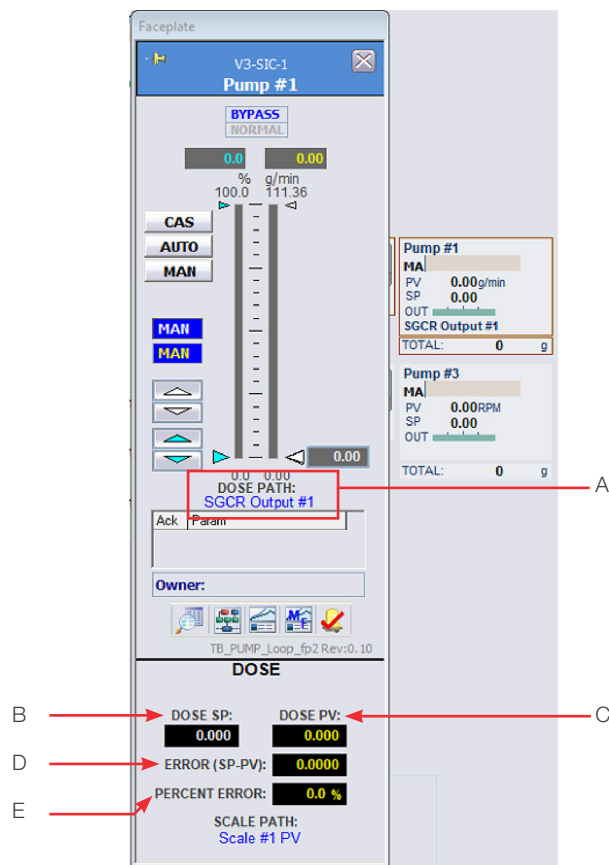

Figure 5.27. Dose path Pump #1 faceplate.
Note: The faceplate will have additional features (Figure 5.27).
- The following features are identified on Figure 5.27: